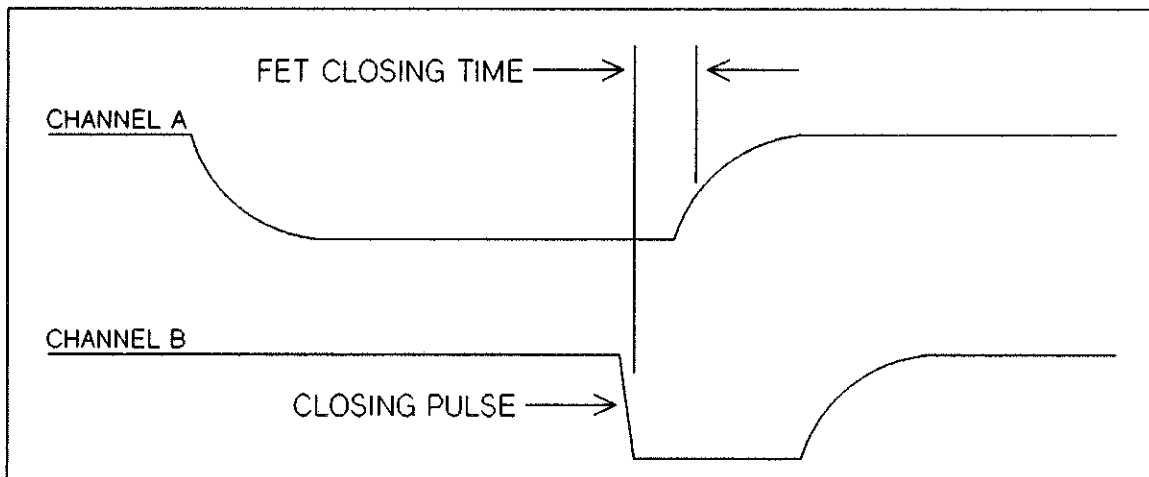

Figure 9-16 HP 44709A/44710A Closing Time
3. Rotate the DELAY SWEEP dial on the oscilloscope to the minimum position. Slowly rotate the dial clockwise until the first closing is displayed. The Channel B trace is the closing pulse output from the multiplexer. The Channel A waveform is the +5V supply, as switched by the FET channel switches. As the DELAY SWEEP dial is rotated, each channel switch and the associated CLOSING pulse will come into view. The FET closing time is the time from the falling edge of the CLOSING pulse to the rising edge of the Channel A waveform. This time must be less than 2.25 μ seconds. The closing time is illustrated in Figure 9-16.